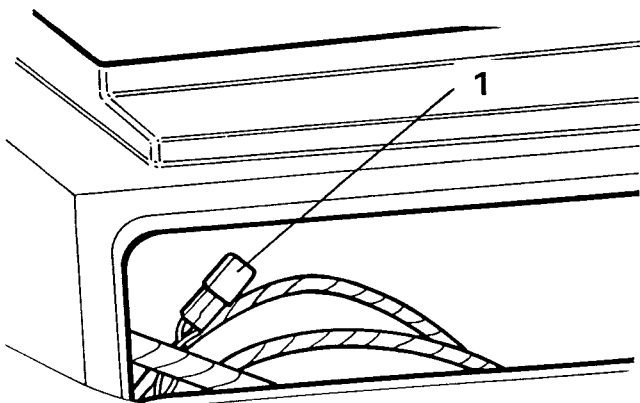

Figure 4
1. Remove two screws and lift the trinket tray from the centre console to gain access to their thermal overload switch, see figure 4.